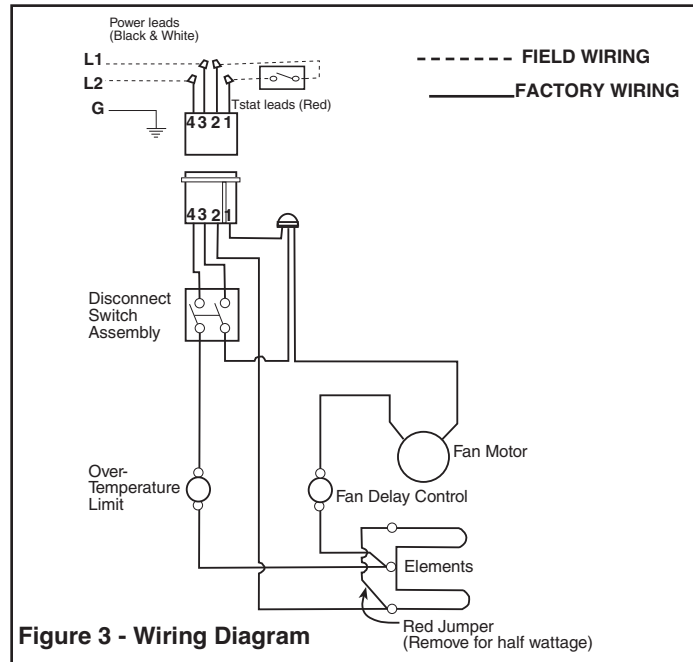

Figure 3 - Wiring Diagram
HEATER MUST BE WIRED AS SHOWN IN WIRING DIAGRAM. SEE FIG. 3. WIRING IN ANY OTHER MANNER MAY PREVENT HEATER FROM OPERATING PROPERLY AND COULD LEAD TO PREMATURE FAILURE OR A FIRE.
1. Following wiring diagram (Figure 3) connect supply wiring and thermostat wiring to heater lead wires in back box.